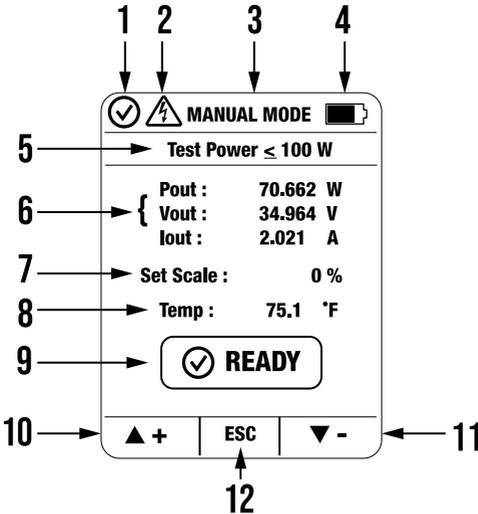

Figure 5.9 Manual mode screen. Each numbered item in the figure is defined below.
The adjustable scale setting (item 7 in Figure 5.9, below), allows you to amplify the measurement from 17.80 to 25.00 % so that the tracer can display an otherwise under-range power signal.
2. Short press the Mode button to enter the manual mode, see Figure 5.9.
- The 'READY' icon (item 9 in Figure 5.9) changes to an alternating pattern of 'RUNNING' and 'STOP' when the scale setting is increased from zero. This means that the tracer is taking readings (RUNNING) in between periods of rest (STOP).